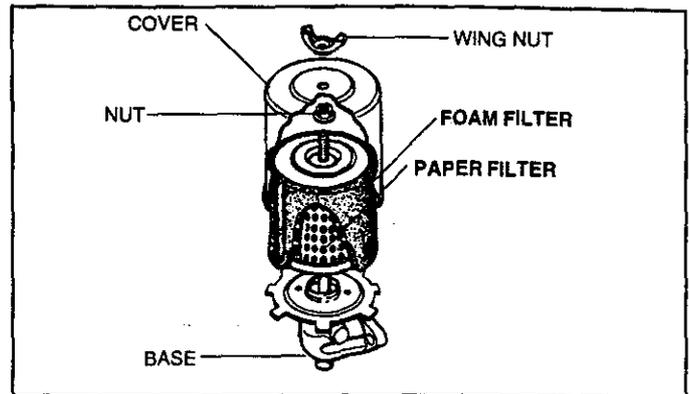

Figure 4
A. **TO SERVICE FILTER(S)** (see Figure 4):